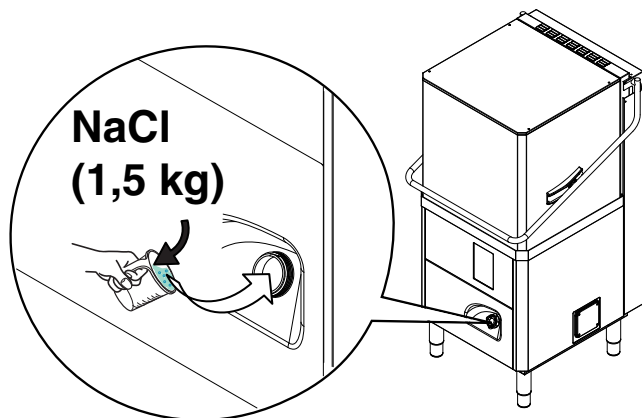

Fig. 19
- Pour approx. 1.5 kg of coarse salt [NaCl] in container "A" (an amount sufficient to fill the salt container up to the rim) using the special funnel supplied (Fig. 19).